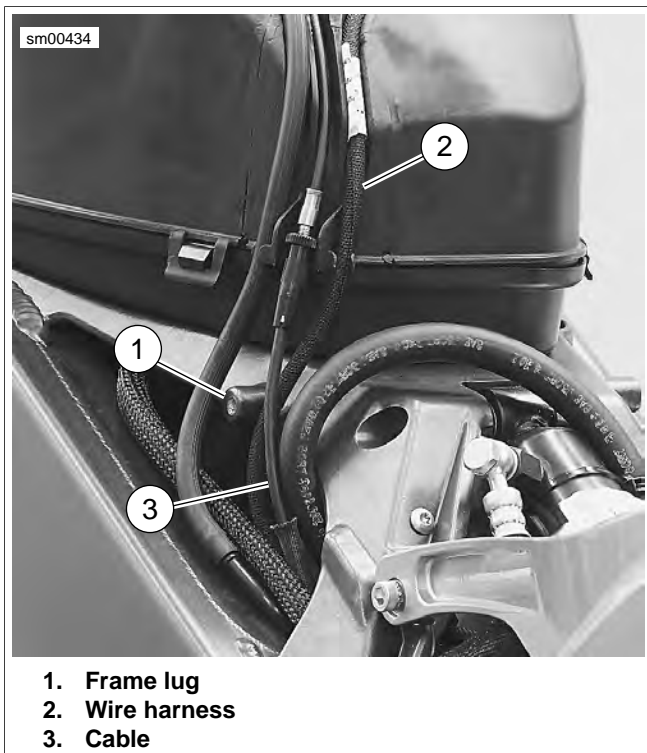

Figure 6-115. Correct Cable Routing Behind Frame Lug (Typical)
3. See Figure 6-115. Verify that the interactive exhaust cable (3) is routed behind the frame lug (1) before installing air intake cover.